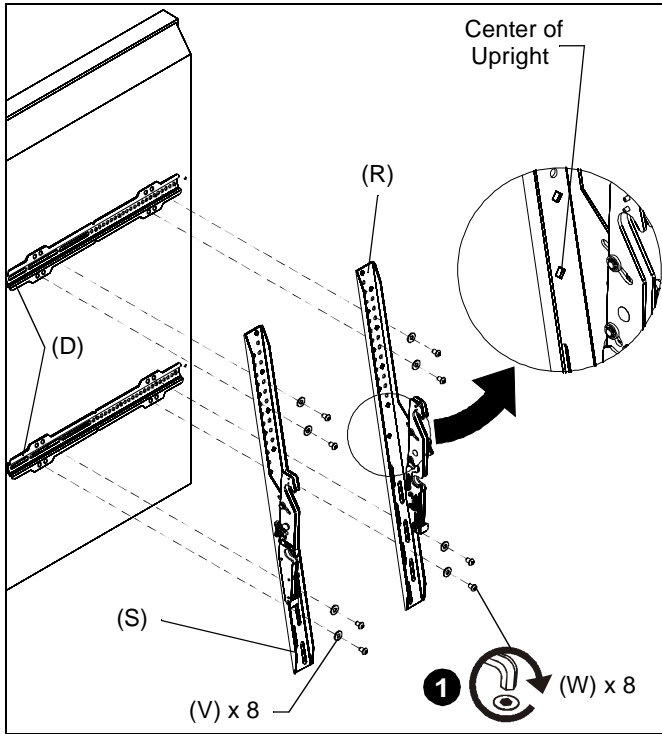

Figure 6
1. Vertically align the center of the uprights (R and S) with center of screen. (See Figure 6)
2. Attach uprights (R and S) to the display brackets (T) on the display back using eight 5/16" x 1/2" button head cap screws (W) and eight 5/16" flat washers (V). (See Figure 6)